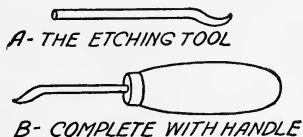

FIG. 26. THE TOOL USED FOR PYROGRAPHY
*How to Make an Etching Tool.*—Get a piece of copper rod  $\frac{1}{4}$  inch in diameter and 3 inches long; file one end down to a point to the shape shown at A and B in Fig. 26 and put a file handle on the other end.